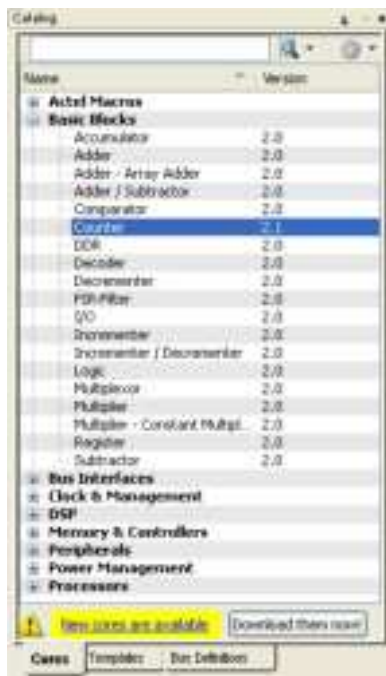

Figure 1-10 • Counter in the Catalog
5. In the **Catalog**, double-click **Counter** (in **Basic Blocks**) to generate the counter blocks for this tutorial (Figure 1-10).